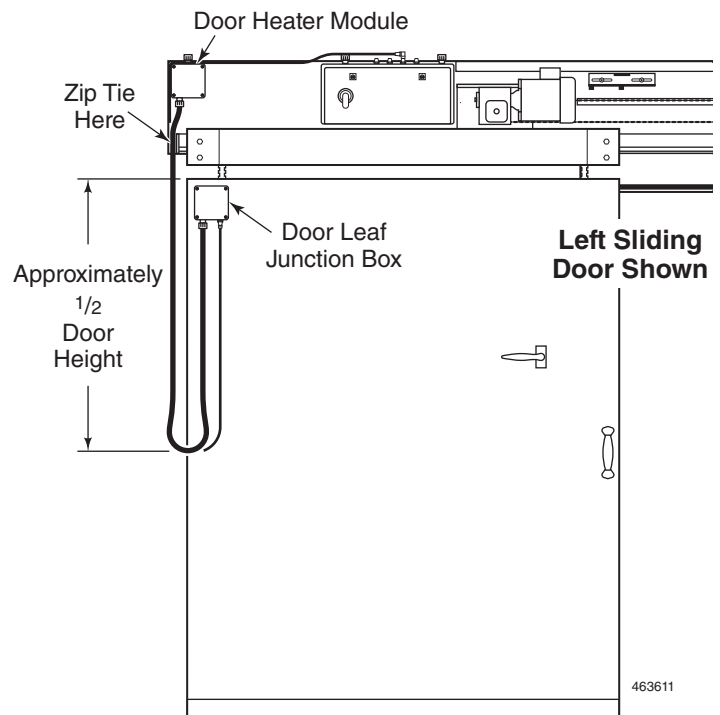

Figure 17
1. Verify after connection that the Door Signal and Door Heater cables have enough slack to move freely and not get stretched tight when the door operates. In the open position, the cable loop from the Door Heater Module(s) on the Header to the Door Leaf Junction Box should extend approximately half way down the door. See Figure 17.
2. Verify that each cable is firmly attached to the end of the Door Track with a zip tie. See Figure 17.